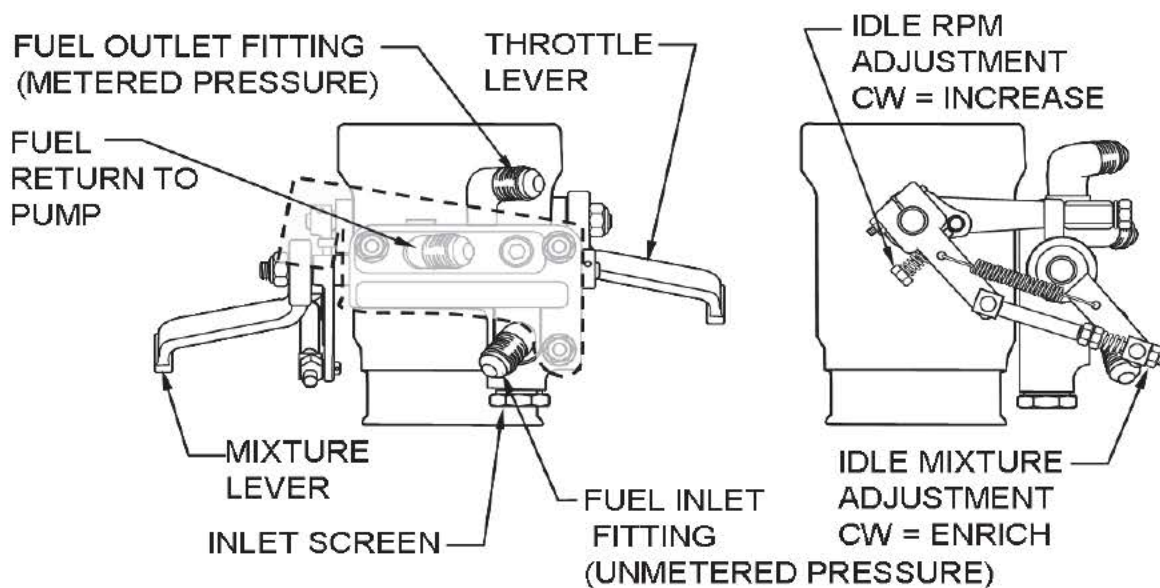
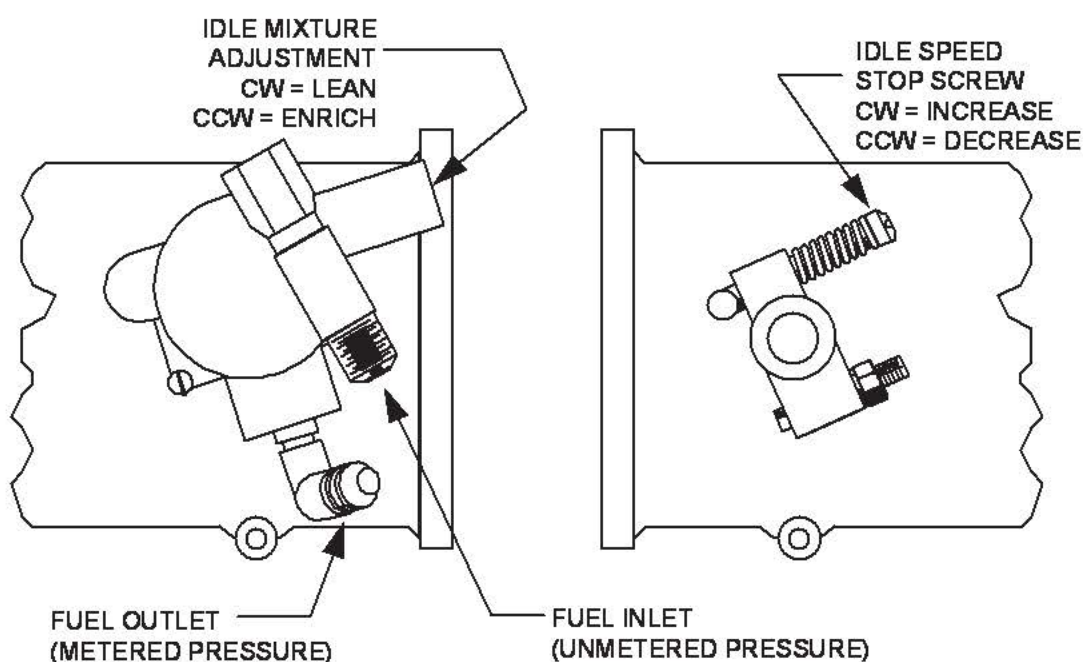

Figure 6-5. IO-550-A, B & C Throttle Body Adjustments
Figure 6-6. IO-550-G, N, P & R Throttle Body Adjustments
2. Locate the IDLE speed stop screw (Figure 6-5 or Figure 6-6) on the throttle body and turn it counter-clockwise two complete turns. During the operational check, IDLE RPM will be controlled manually using the cockpit throttle control.